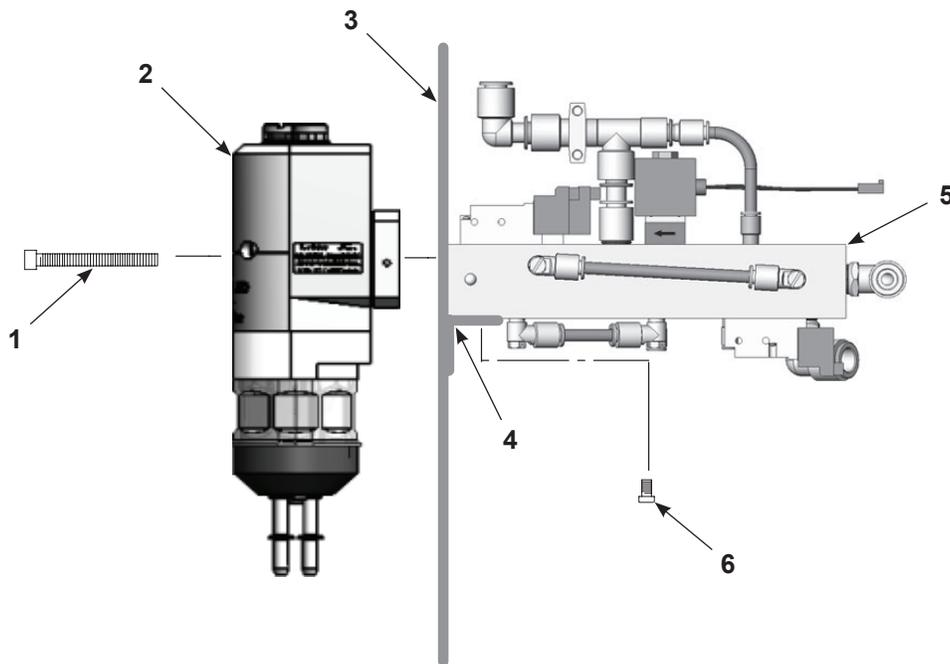

Figure 7 Pump and Manifold Installation
1. See Figure 7. Make sure that the gaskets on the pump (2) and manifold (5) are not damaged. If the gaskets are damaged, replace them.
2. Set the manifold onto the appropriate mounting bracket (4) against the pump panel wall (3). Secure the manifold with the mounting screws (6), but do not tighten the screws.
3. Secure the pump to the pump panel and manifold using the pump mounting screws (1). Tighten the pump mounting screws securely.